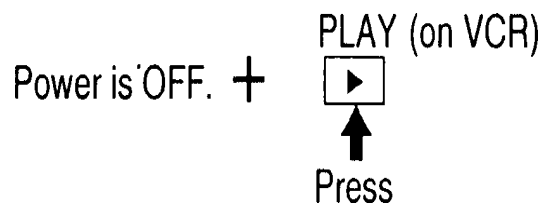

Fig. 20 - Simplified Fault Finding Data
Simplified Fault Finding Data (Figs. 20, 21, 22, 23, 24, 25)
1. With the power turned off, press the *Play* button on the VCR for more than three (3) seconds (Fig. 20).